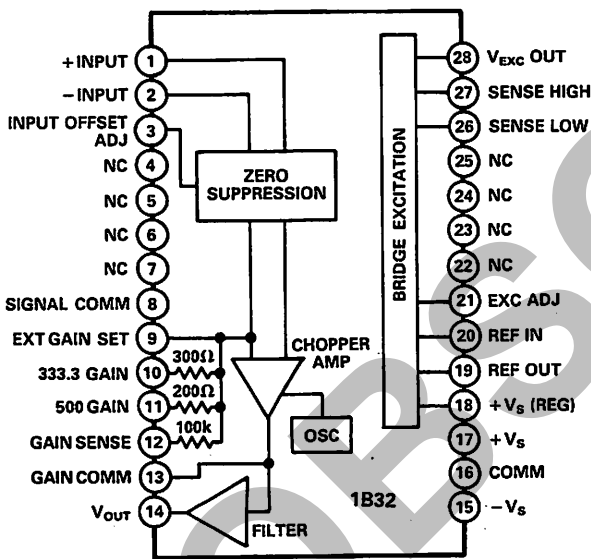
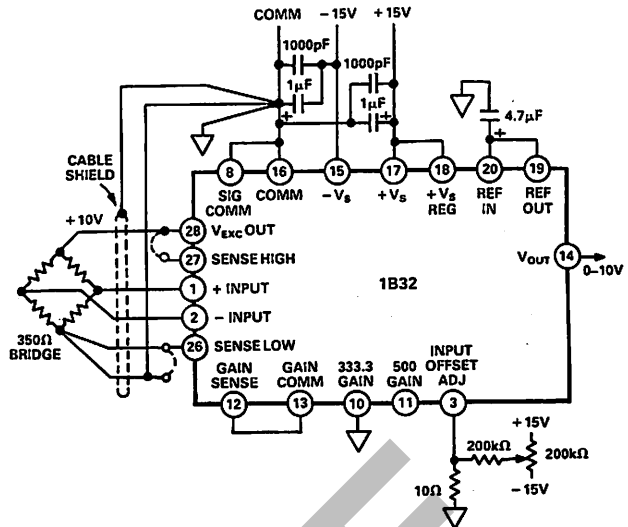

Figure 1. 1B32 Block Diagram and Pinout
Figure 2. Internal Gain Strapping
As shown in Figure 1, the gain can be pin-strapped by an internal resistor network. Standard gains of 333.3 and 500 can be achieved by this method with gain tempco of  $\pm 6\text{ppm}/^\circ\text{C}$  max. Finally, the offset adjust of the amplifier is input referred, and requires a voltage input similar to the differential input voltage to implement wide range suppression.
**Gain Setting:** The differential gain of the 1B32 can be either pin-strapped or programmed externally with two resistors. The internal thin-film gain network (Figure 1) provides gains of 500 and 333.3 for standard load-cell sensitivities of 2mV/V and 3mV/V. This is achieved by connecting GAIN SENSE (Pin 12) to GAIN COMM (Pin 13) and grounding Pin 10 or Pin 11 (Figure 2). The gain tempco using the internal network is an excellent  $\pm 2\text{ppm}/^\circ\text{C}$  typ ( $\pm 6\text{ppm}/^\circ\text{C}$  max).
**Offset Adjustment:** The input-referred offset adjust has the same sensitivity as the inputs of the 1B32. The voltage level at INPUT OFFSET ADJ (Pin 3) is gained by the same factor as the input signal to provide a  $\pm 10V$  output adjust. Figure 2 shows an external network and potentiometer set up for a  $\pm 7.5\text{mV}$  span at the input, which gives a  $\pm 2.5V$  ( $7.5\text{mV} \times 333.3$ ) output adjust capability. Wider ranges can be chosen with the appropriate resistor and potentiometer values.
The remote sensing inputs should be connected to the transducer separately from the excitation leads or jumpered as shown in Figure 2. The resistance of the excitation and sense lines should not exceed 10Ω.
**Power Supply:** The  $V_S$  REG input (Pin 18) should be connected to  $+V_S$  (Pin 17) even if the bridge excitation section is not used. Also the power supplies should be decoupled with 1µF tantalum and 1000pF ceramic capacitors as close to the 1B32 as possible (Figure 2).